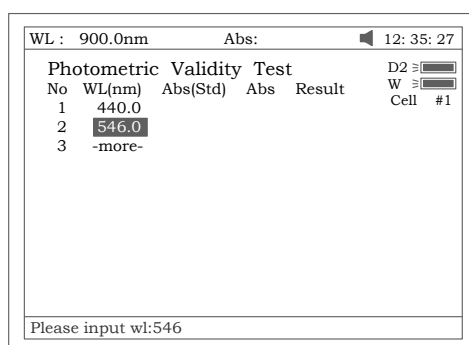

Fig 90
1. Press **【SETλ】** to set the wavelength. Press **【ENTER】** to edit and input wavelength by pressing the numeric keypad (Fig 90). **【ESC/STOP】** to finish inputting and exit.